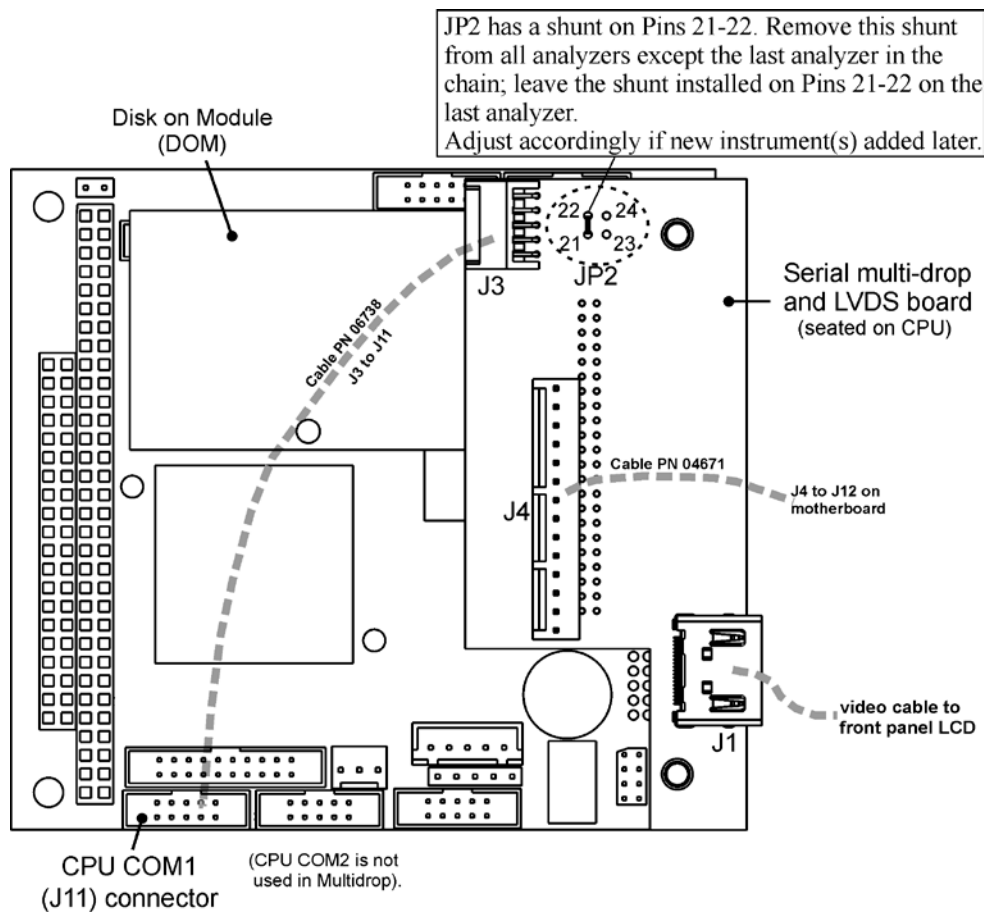

Figure 4-8: Jumper and Cables for Multidrop Mode
In each instrument with the Multidrop option there is a shunt jumpering two pins on the serial Multidrop and LVDS printed circuit assembly (PCA), as shown in Figure 4-8. This shunt must be removed from all instruments except that designated as last in the multidrop chain, which must remain terminated. This requires powering off and opening each instrument and making the following adjustments:
2. On the Multidrop/LVDS PCA's JP2 connector, remove the shunt that jumpers Pins 21 ↔ 22 as indicated in Figure 4-8. (Do this for all but the last instrument in the chain where the shunt should remain at Pins 21 ↔ 22).
3. Check that the following cable connections are made in *all* instruments (again refer to Figure 4-8).